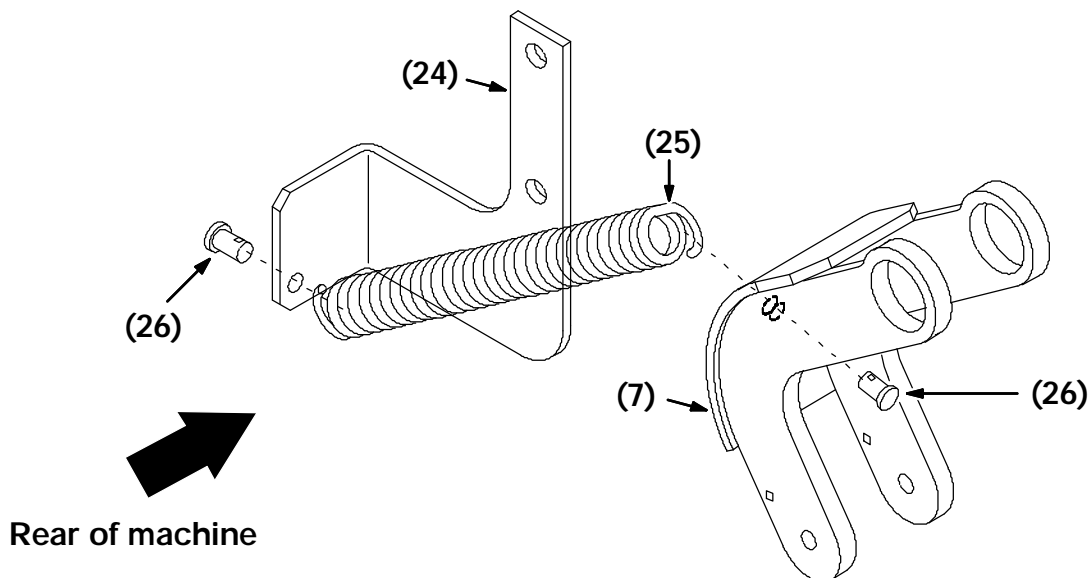

FIG. 3 – Spring Bracket
19. Attach one end of the tension spring (25) to the clevis pin (26) which has been installed in the hole in the spring bracket (24). (Refer to Fig. 3 and 7)
20. Attach the other end of the tension spring (25) to the hole in the clevis pin (26) which has been installed in the hole in the bottom bellcrank (7). (Refer to Fig. 3 and 7)